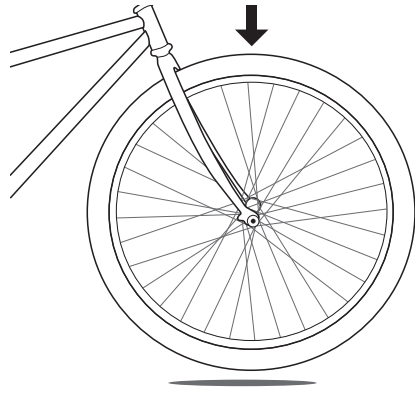

Figure 38. Lift the front tire off the ground and hit the top with your hand to test for looseness.
- Test A. Lift the bicycle and sharply hit the top of the tire (Figure 38). The wheel must not come off, be loose, or move from side to side.